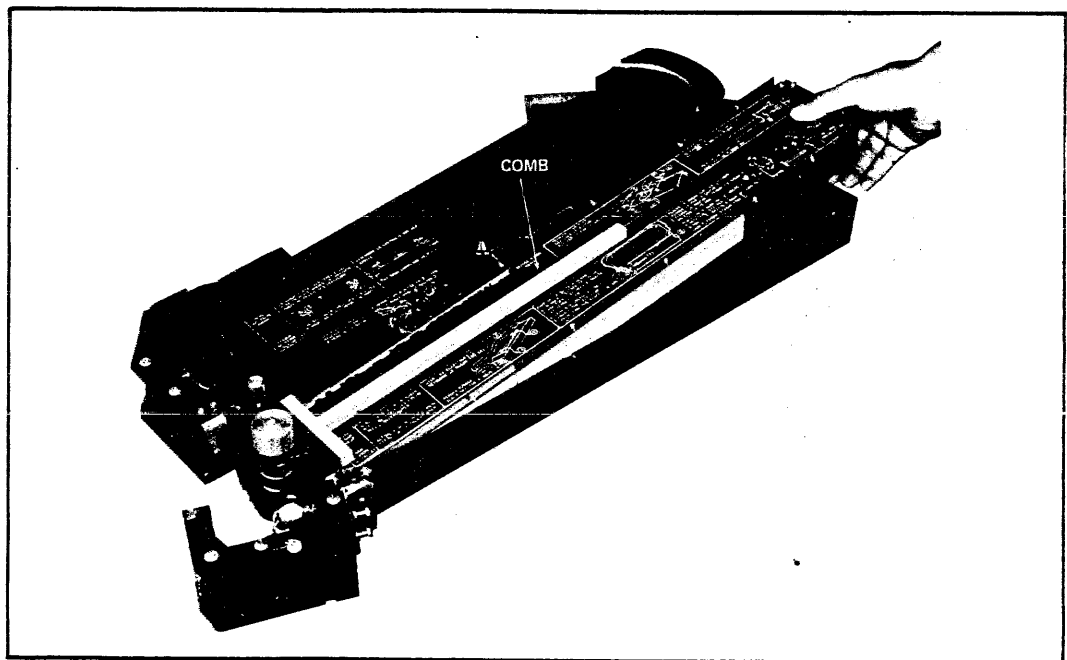

Figure 3-10. Installing the Ribbon Refill Cartridge
2. Insert the ribbon comb (see Figure 3-10). This keeps the ribbon inside the cartridge while the cartridge is removed.
3. Grasp the ribbon refill cartridge and fit the left end into the cartridge holder. Lower the right end and lock it (Figure 3-10).